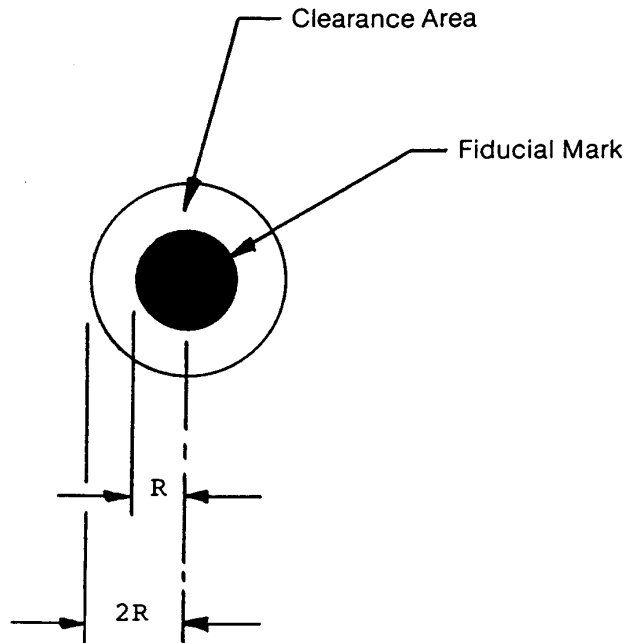

Figure 3. Fiducial Mark and Its Clearance Area.
3.3.1 Shape - The shape of the fiducial shall be a solid filled circle, see Figure 3.
3.3.4.1 Fiducial Mark Clearance-There shall be a clearance area around each fiducial mark that is devoid of any other conductive patterns or markings. The size of the clearance area shall have a radius that is at least twice that of the fiducial mark and shall be concentric with the center of the fiducial mark, as shown in Figure 3.